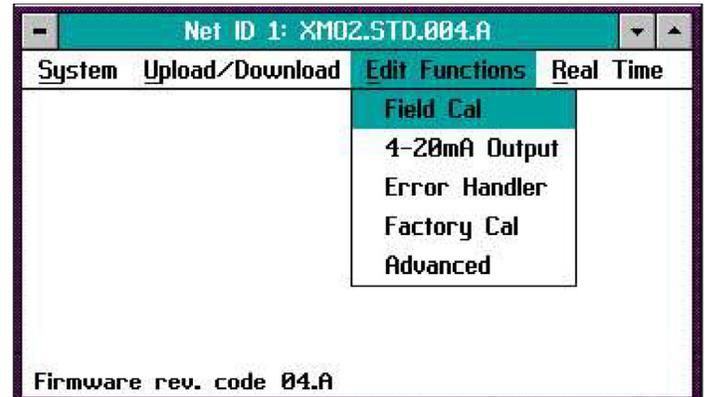
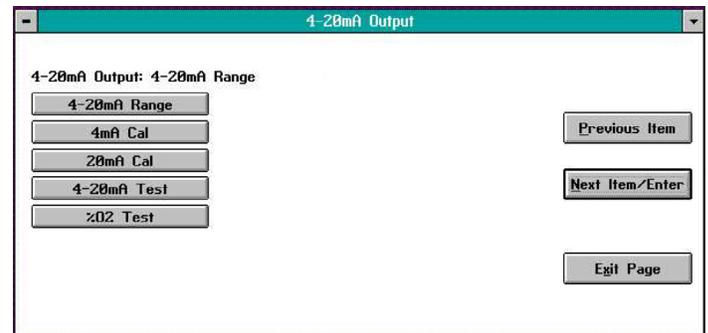

Figure 12: Edit functions menu
Figure 27: 4-20 mA output window
2. From the Instrument window, pull down the Edit Functions menu, as shown in *Figure 12* on *page 19*.
To access the XMO2 calibration, pull down the Edit Functions menu from the Instrument window. This menu consists of the five commands displayed in *Figure 12* below. To access any of the commands, simply select it from the menu.
The XMO2 *Calibration Sheet* shipped with the unit lists the 4-20 mA analog output range that was set at the factory. IDM enables you to change this range via the *4-20mA Output* option. After you click on the *4-20mA Output* button from the *Edit Functions* menu (Figure 12 on page 19), a window similar to Figure 27 below opens. Clicking on any option opens the window for that option, while clicking on *Next Item/Enter* opens the menu listed on the status line above the options.
Note: Clicking on the *Next Item/Enter* button selects the option listed on the status line above the option buttons (*4-20mA Range* in Figure 27 above). The option listed on the status line in any window is the option that was chosen the last time that menu was used.